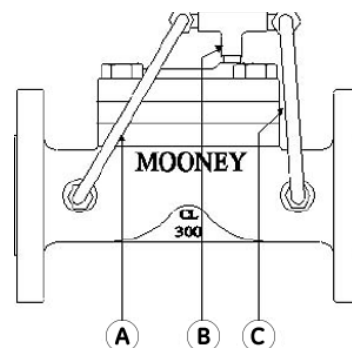

Figure 8 - Flowgrid Tee Connections
2. Pipe regulator with the inlet, outlet, and loading connections all common so that pressure is equalized in the entire regulator during the hydrostatic test (See Figure 8).